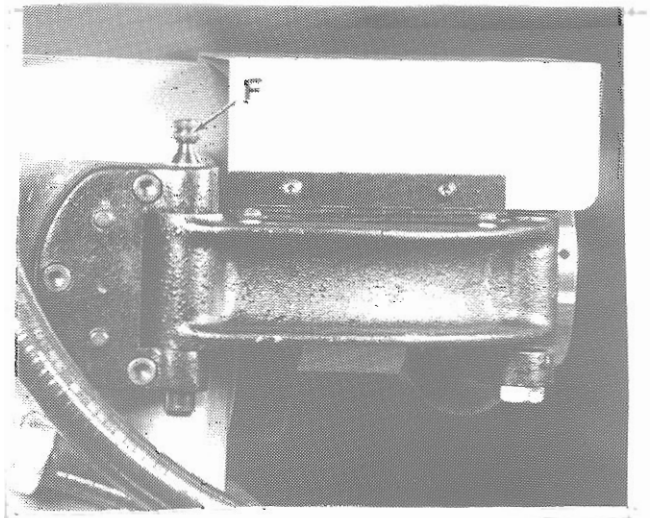
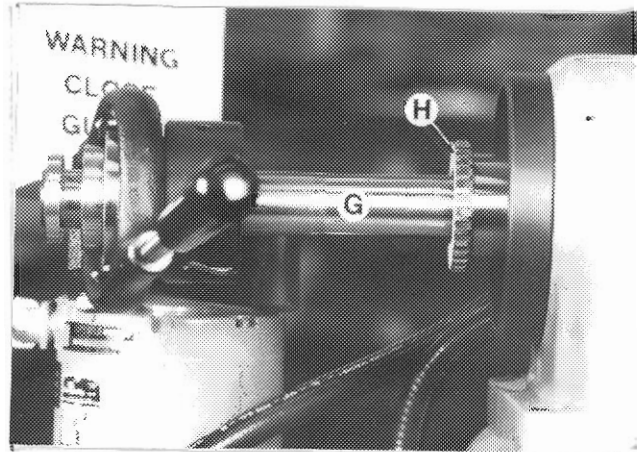

Figure 3.2 - Link Pin
Figure 3.3 - Collet Closer Removal
1. Remove link pin "F", Figure 3.2, by pulling straight up.
2. Remove collet closer as shown, Figure 3.3. ALWAYS REMOVE ADJUSTING NUT "H", pulling straight off end of spindle. DO NOT TURN ADJUSTING NUT. IT IS NOT THREADED TO SPINDLE.
2. Apply a film of Mobile Velocite Oil No. 6 or equivalent on rear of headstock spindle and replace adjusting nut "H", Figure 3.3. DO NOT FORCE ADJUSTING NUT ON SPINDLE. If adjusting nut goes on tight, remove and examine for burrs or scratches. Apply a film of Mobile Velocite Oil No. 6 or equivalent on bearing section "G" of collet closer tube, replace closer and insert link pin "F", Figure 3.2.